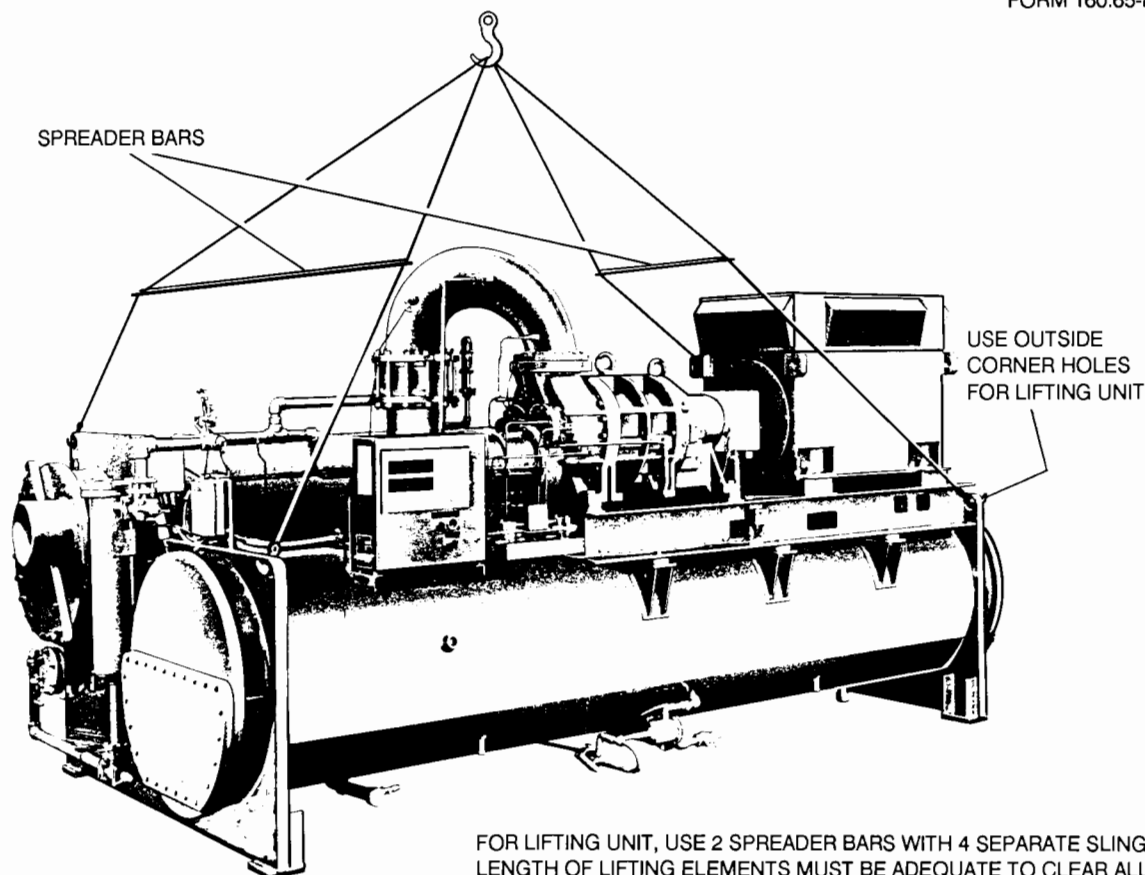

FIG. 1 – RIGGING THE UNIT
Each unit has eight (8) lifting holes, (4) four on each end, in the end sheets. The four (4) outside corner holes must be used for lifting the unit. (See Fig. 1.)
(See Fig. 1 for proper use of slings in rigging.)